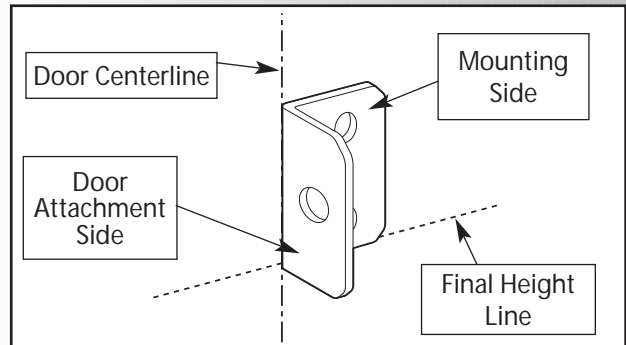

Fig. 2-6
- Make sure boom attachment side of flange is on centerline. **Fig. 2-6.**